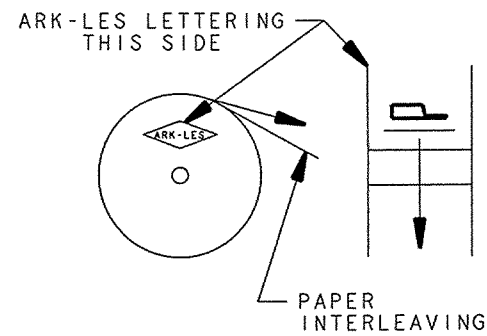

FIGURE 1
- FOR PIGTAIL SPLICES USED IN BENCH APPLICATOR ADD SUFFIX "PP" TO PART NUMBER (I.E. 3800S 375A-3PP). FOR REELING SEE FIGURE 1.